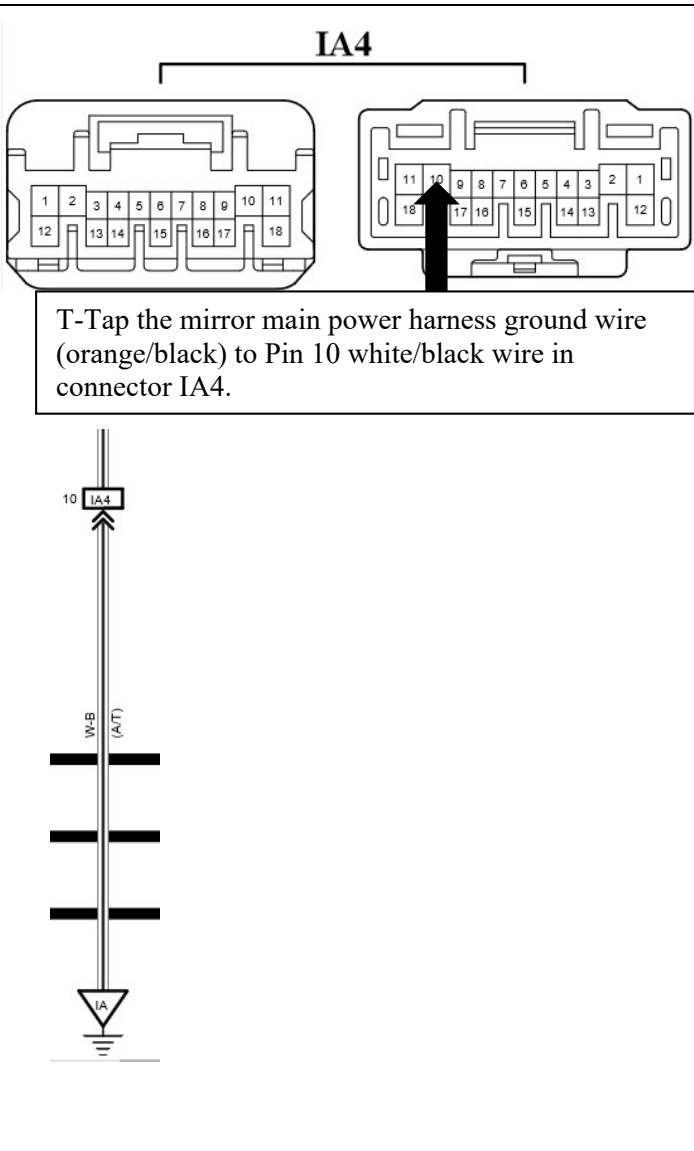

Figure 22a
22. T-Tap the mirror main power harness ground wire (orange/black) to Pin 10 white/black wire in connector IA4. See figure 22a and 22b.